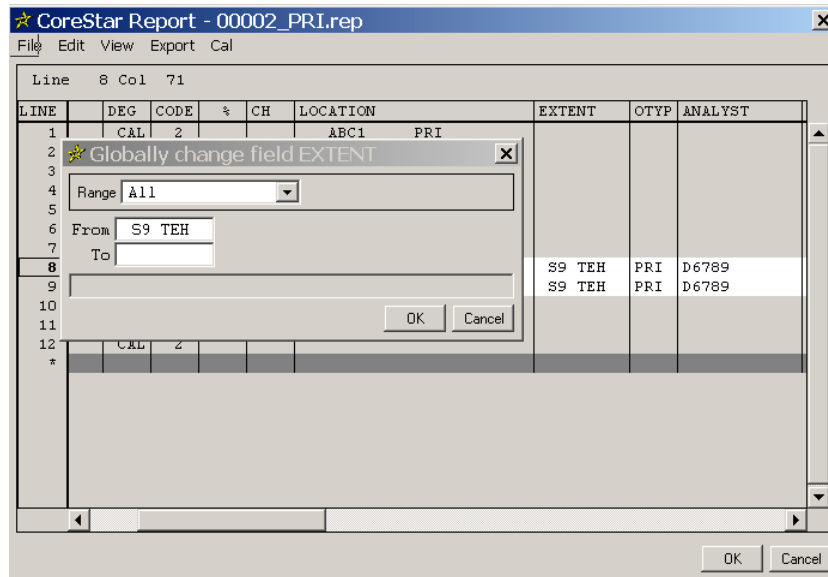

Figure 1-35. Globally Editing Text Values in a Report Using the Global Edit Dialog
STEP 32: Right-click on the **Extent** column header. As shown in Figure 1-35, a **Global** edit dialog appears. This dialog is used to make global changes to text fields in the report.